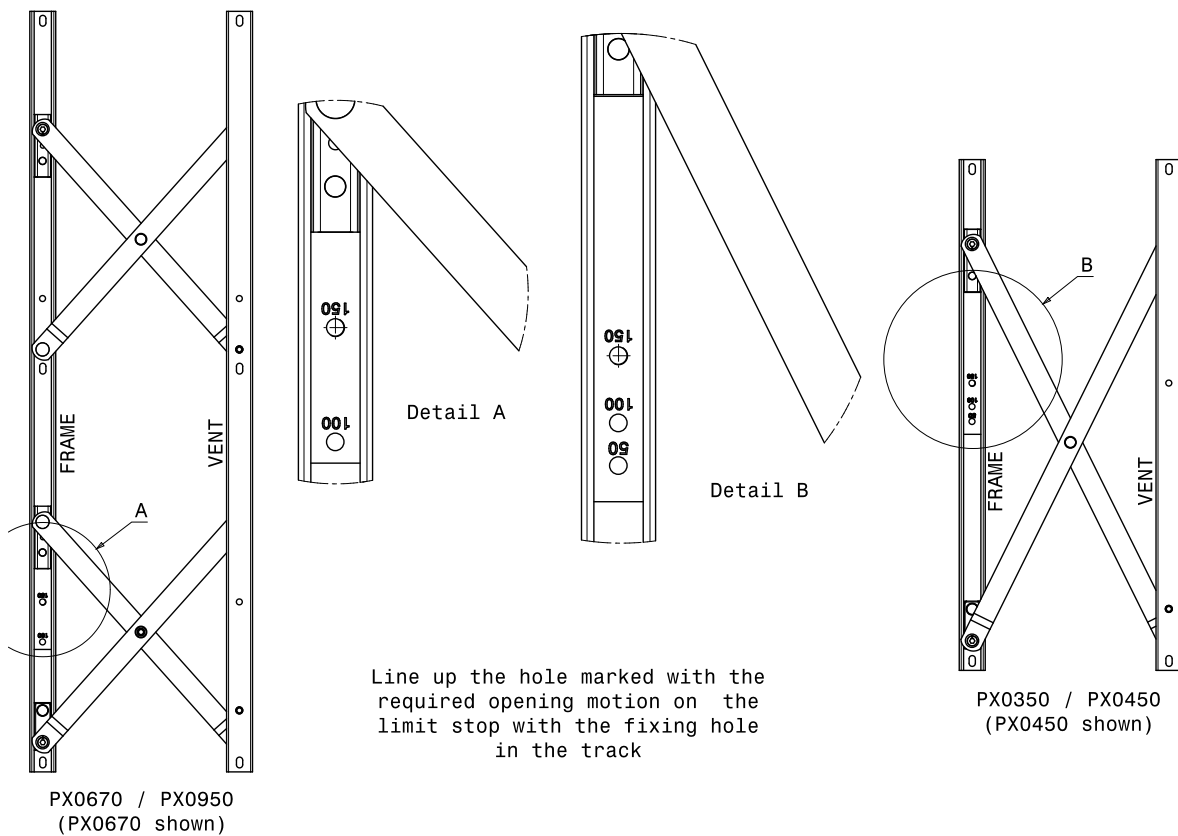

Fig. 3
- 9.1.12 To arrest the outward motion of manually operated vents the required drop in limit stop must be fitted in the frame profile track as shown in Fig. 3.